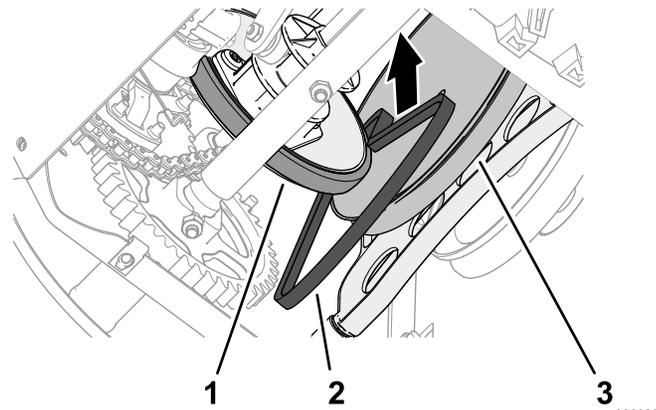

Figure 49
- Slip the traction belt between the friction wheel and the traction pulley, and into the machine (Figure 49).